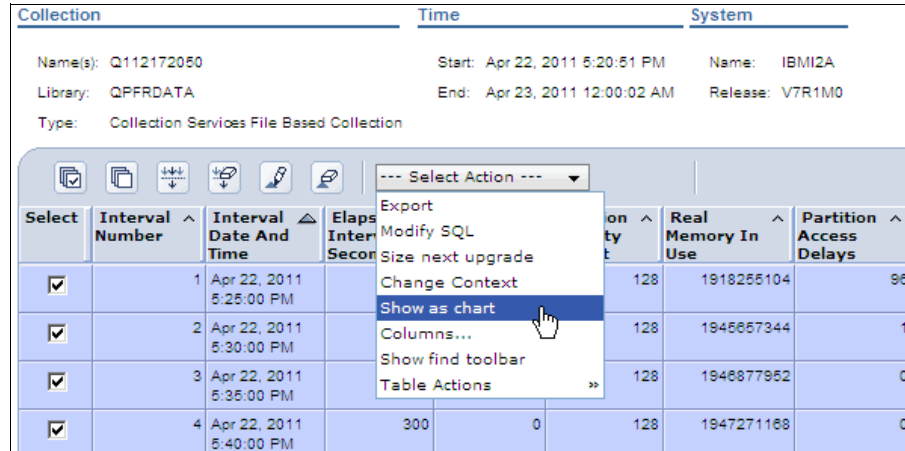

Figure 5-12 Selecting Show as chart to produce the graph
- After you select intervals, click **Select Action** and select **Show as a chart**, as shown in Figure 5-12.